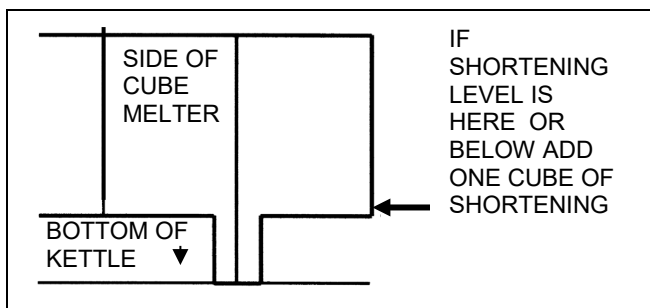

Figure 1-9.
10. As needed, add shortening to the kettle, one cube at a time. Always add a cube if the shortening level drops to the tops of the legs of the cube melter. (See Figure 1-9 & 1-9A.)